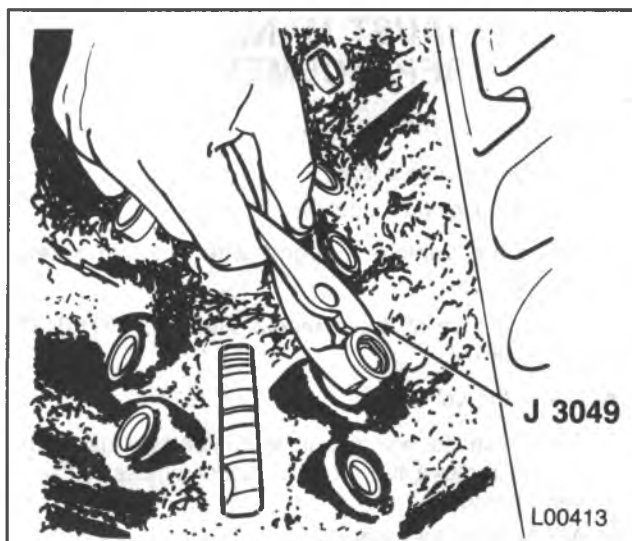
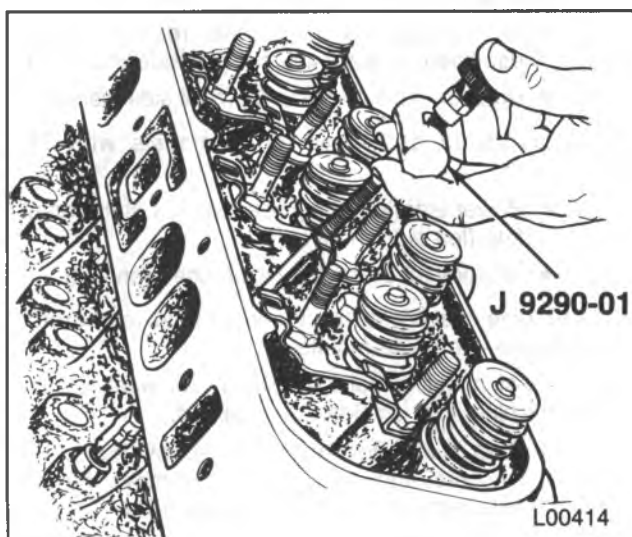

Figure 10 — Removing the Hydraulic Lifter
Figure 11 — Removing the Hydraulic Lifter
Remove or Disconnect (Figures 10 and 11)
- A stuck hydraulic lifter can be removed using J 3049 (figure 10) or J 9290-01 (figure 11).